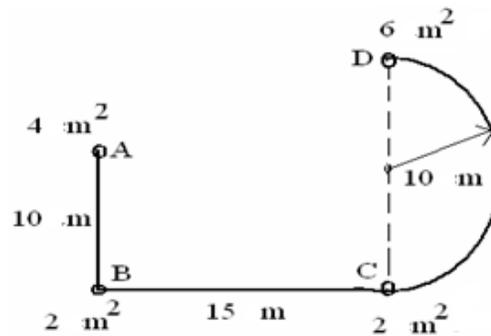

Fig.2
12. Find the Shear Center for the section shown in Fig. 2. The section is subjected to shear load of $S_y = 1000\text{N}$ applied at the shear centre of the section.